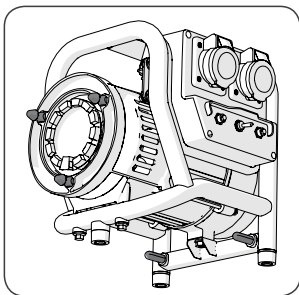

Fig. 7
- Keep the 3 locating pins and 2 stabilising pins clean and occasionally spray coat with a silicone oil based spray. **(Fig. 7)**